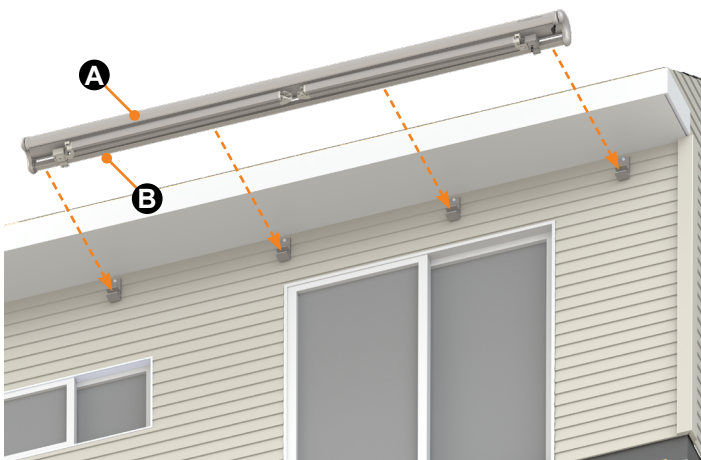

Fig.52
**NOTE:** An awning mounted directly to the side of the residence on siding is depicted in Figures 52, 53, and 54 as an example.
**NOTE:** Valence flap is not shown in Figure 52 and 54 for clarity.